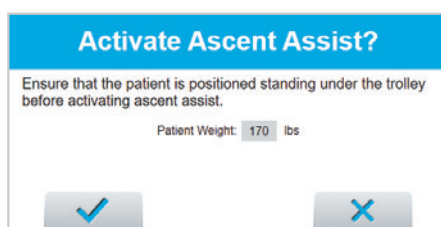

Figure 6-9:
4. When Ascent Assist is enabled, the button will turn red. See Figure 6-9.